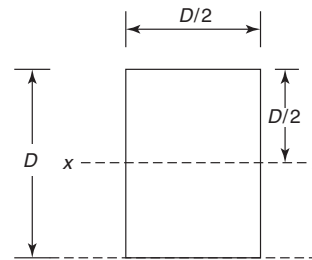

Figure 8.9
4. If the cross-section of the beam of Problem 3 were of rectangular shape, as shown in Figure 8.9, determine its